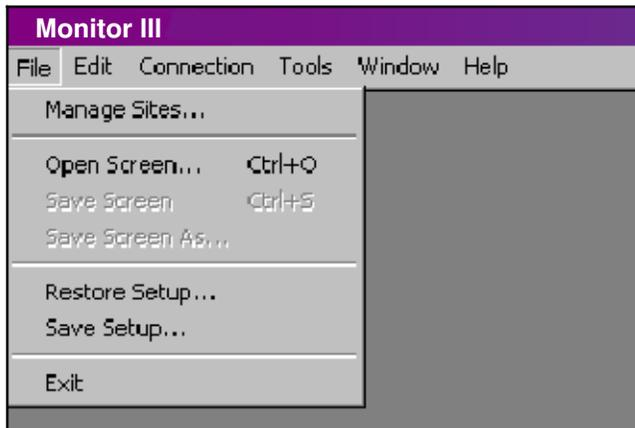

Figure 2-4 File Menu
The Screen commands are disabled if no windows are displayed. See Figure 2-4.
1. Select *File*→*Save Screen As* from the menu bar as shown in Figure 2-4.
2. Select *File*→*Save Setup* from the menu bar as shown in Figure 2-4.
1. Select *File*→*Restore Setup* from the menu bar as shown in Figure 2-4.